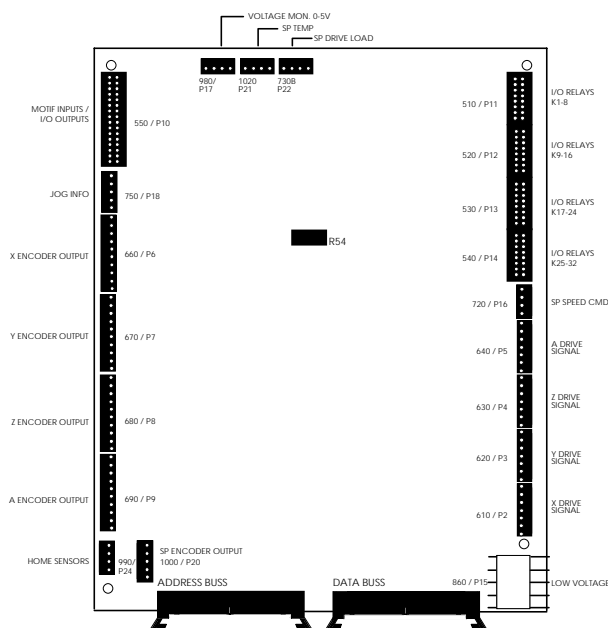

Fig. 4-1 Motor Interface board.
4. Disconnect all leads to the Motor Interface (MOTIF) board. Ensure all cables are properly labeled for reconnecting later. Figure 4-1 shows all cable numbers and the locations on the MOTIF board.